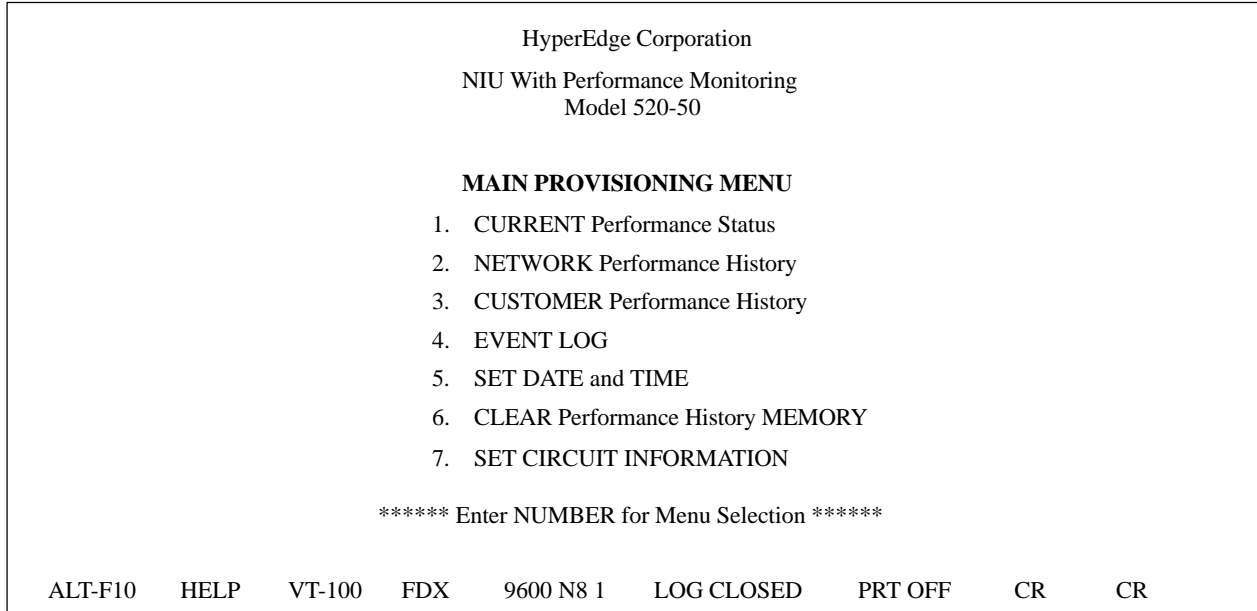

Figure 4. Main Menu Screen
7.04 The 520-50 continuously monitors the DS1 bit stream in both the Network-to-Customer and Customer-to-Network direction and records certain performance statistics which can be retrieved for verification that service performance parameters are being achieved or to locate error conditions. Examples of the various performance screens are shown in Figures 4 through 11.
10.03 Once the terminal or PC is connected to the craft port, the MAIN menu should appear. The MAIN menu provides the NIU model number as well as navigation buttons to other screens. The MAIN menu is shown in Figure 4. To return to the MAIN menu screen from any other screen enter <Esc>.